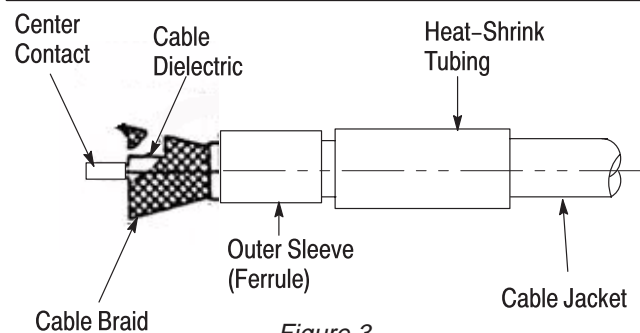

Figure 3
- Heat the center contact with a soldering iron and carefully push it over the inner conductor to rest firmly against the dielectric. See Figure 3.